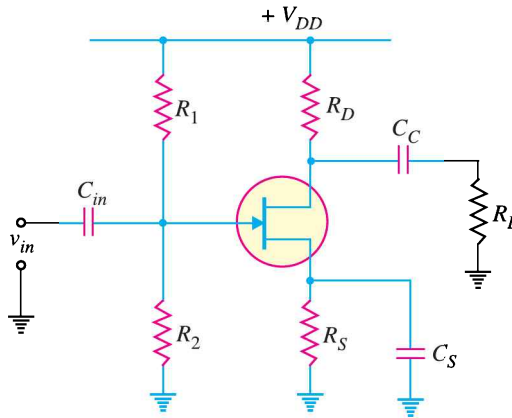
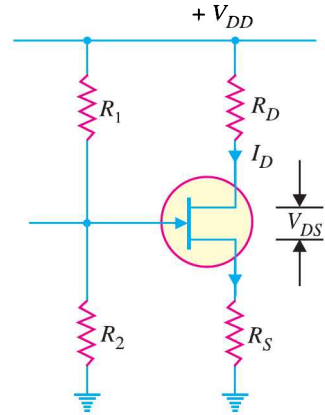
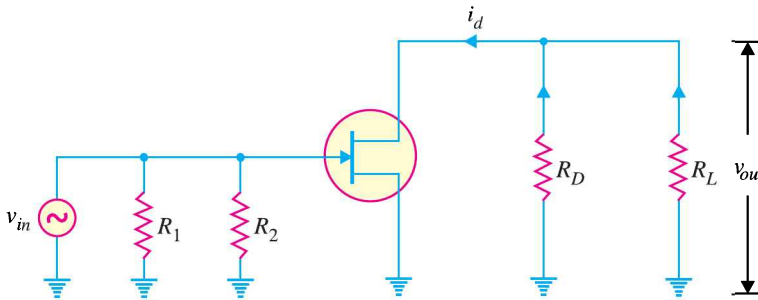

Fig. 19.30
Fig. 19.31
Fig. 19.32
We shall split the *JFET* amplifier shown in Fig. 19.30 into d.c. and a.c. equivalent circuits. Note that biasing is provided by voltage-divider circuit.
Applying these two steps to the *JFET* amplifier circuit shown in Fig. 19.30, we get the d.c. equivalent circuit shown in Fig. 19.31. We can easily calculate the d.c. currents and voltages from this circuit.
Applying these two steps to the circuit shown in Fig. 19.30, we get the a.c. *equivalent circuit shown in Fig. 19.32. We can easily calculate the a.c. currents and voltages from this circuit.
* Note that one end of R_1 and R_2 is connected to one point (See Fig. 19.30) and the other end of R_1 and R_2 is connected to ground. Therefore, $R_1 \parallel R_2$. Similar is the case with R_D and R_L so that $R_D \parallel R_L$.